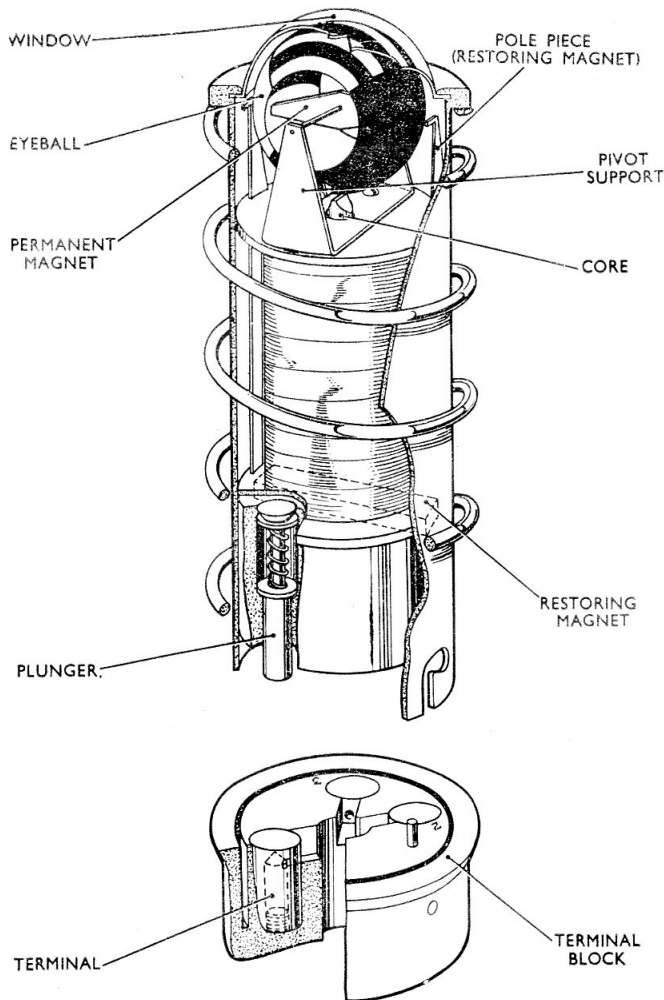

Fig. 3. Sectional view of three-position indicator
15. A second permanent magnet is fixed below the solenoid in the same plane as the element magnet (fig. 3) and is termed the restoring magnet. From the magnet a pair of soft iron polepieces pass outside the solenoid and terminate at the same height as the element spindle. This magnetic system centralizes the element when there is no signal applied to the solenoid.